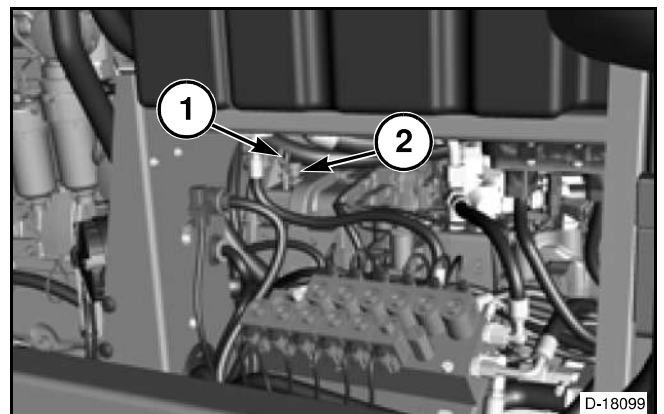

FIG. 13
FIG. 13: Clean the area around the dipstick (1) and filler cap (2). Remove the filler cap and fill the pump drive gearbox through the hole to the correct level with recommended oil. Install the filler cap.